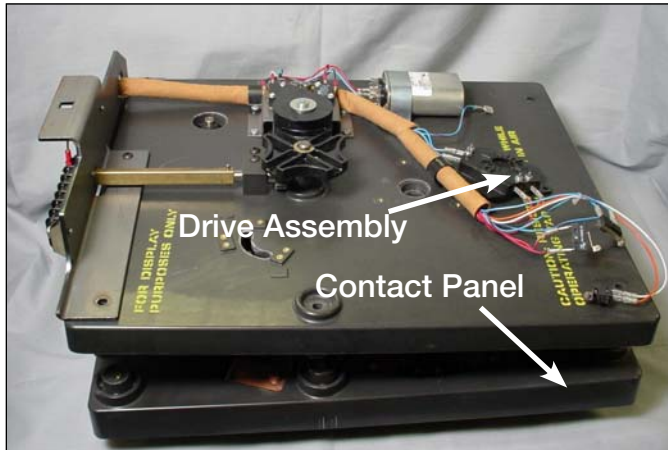

Figure 16.
- Lift the front drive assembly off of the contact assembly and set aside. See Figure 16.